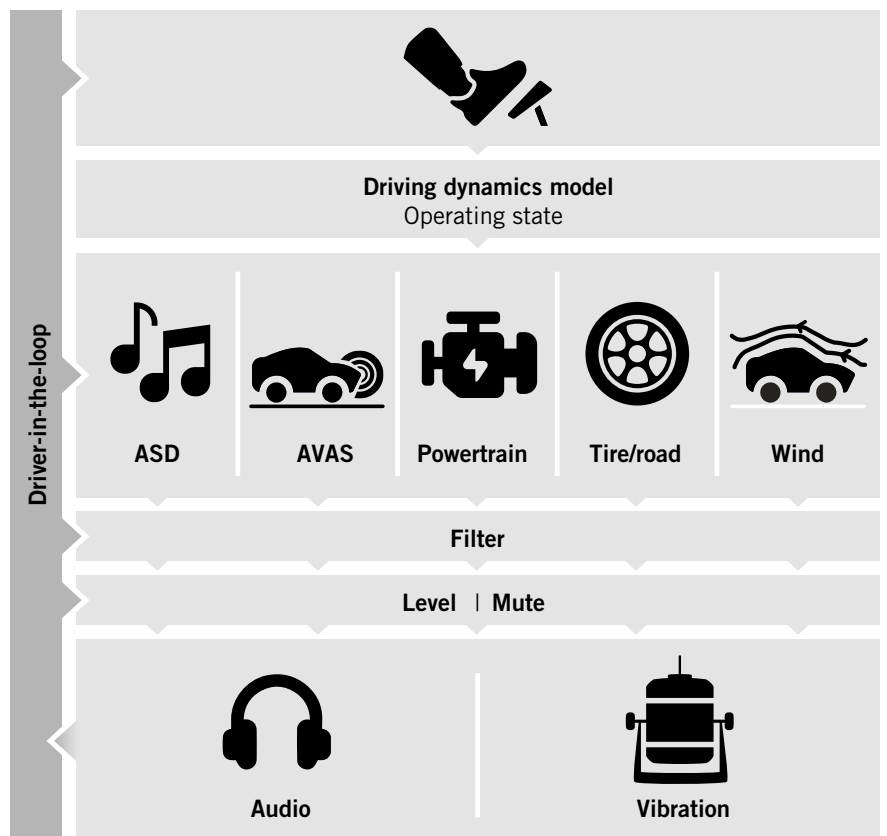

FIGURE 1 Concept and structure of the NVH simulator software with the interfaces to the operator and possible noise and vibration sources (© Head acoustics)
■ An NVH (Noise, Vibration, Harshness) simulator interactively simulates driving noise and vibrations, **FIGURE 1**. Drivers operate the gear selector lever and the pedals as in the actual vehicle and hear the driving noise resynthesized in real-time. Depending on the selected simulator hardware, vibration is also applied, for example, to the seat and steering wheel. In contrast to listening tests with prepared sound samples, in the NVH simulator, the drivers themselves determine the operating state and can consciously trigger the noise and vibration phenomena that are relevant to them.